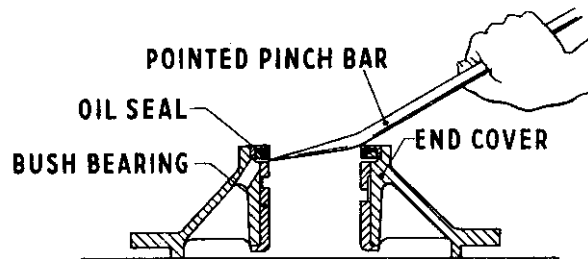

Fig. 12
- ii. Prise the seal out in the manner indicated in Fig. 12, with a wedge pointed pinch bar, or any similar pointed tool.